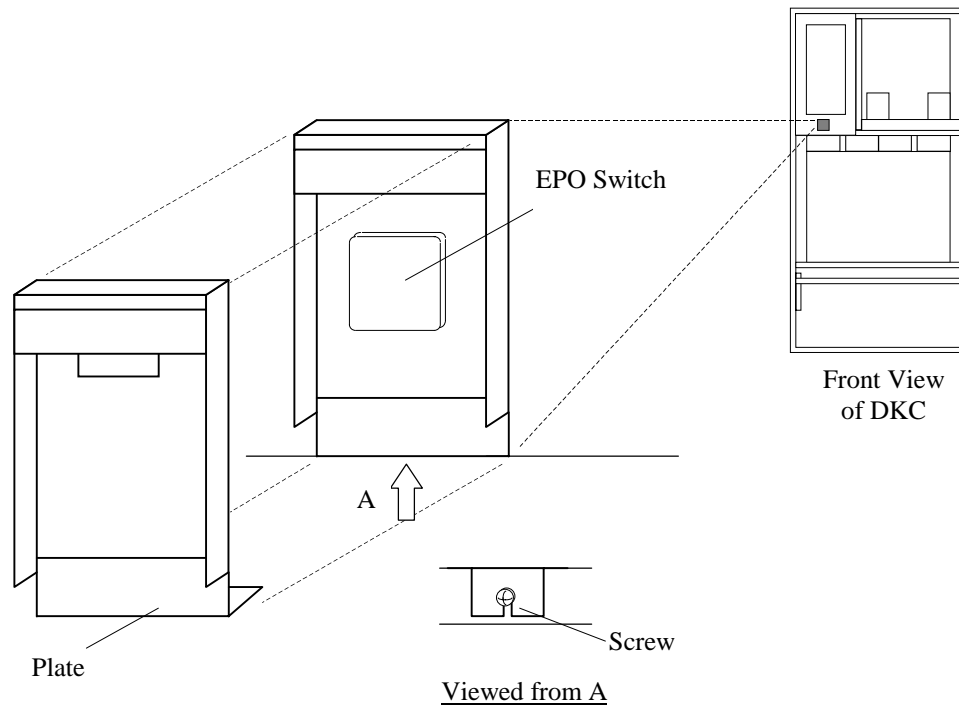

Fig. T2-2 Removal of Plate
- Attach the plate and fasten the screw. Refer to Fig. T2-2.